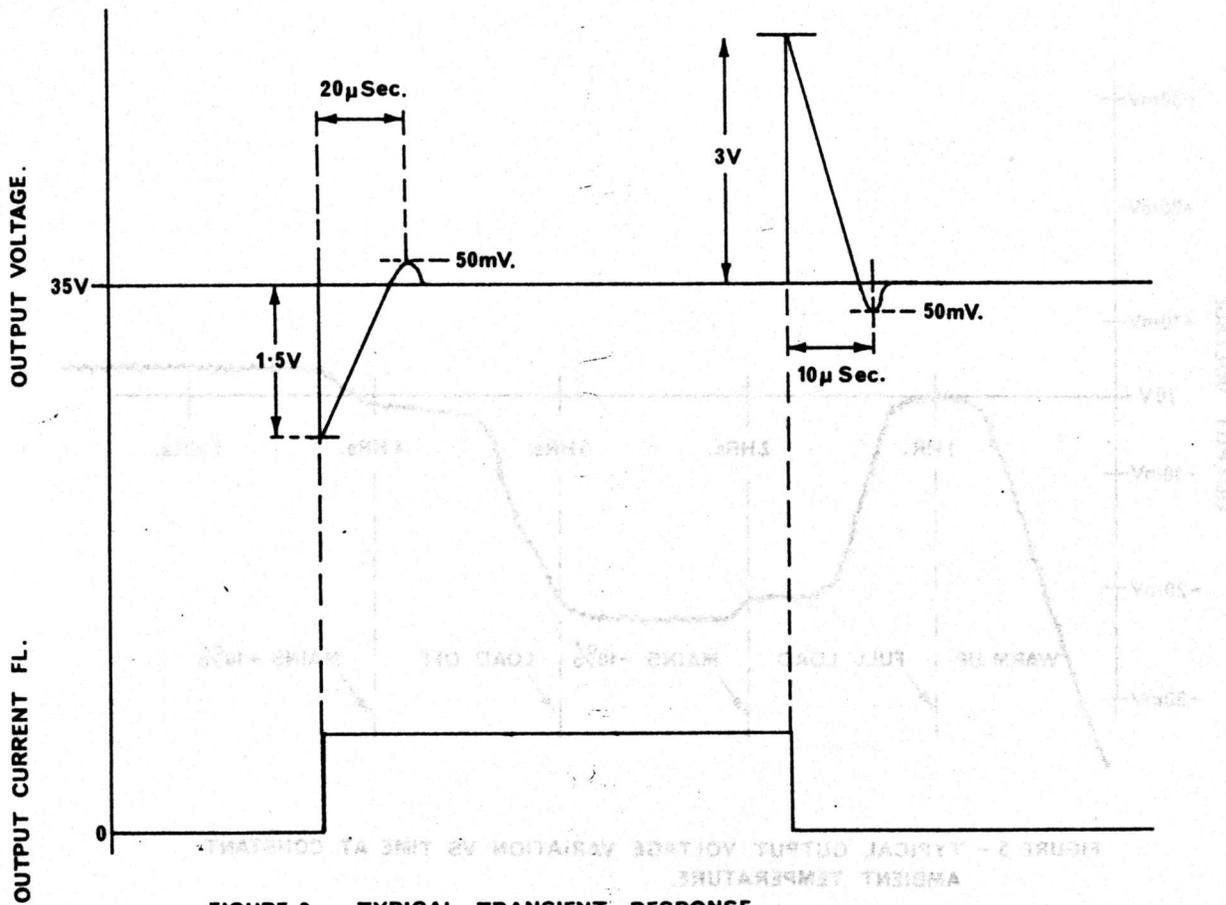

FIGURE 3 - TYPICAL TRANSIENT RESPONSE.
- (1) Steady load - for a change in steady load from zero to full load, the specification on page        holds.
- (11) Transient response - Typical response to a pulsed load is shown in figure 3. P.14.